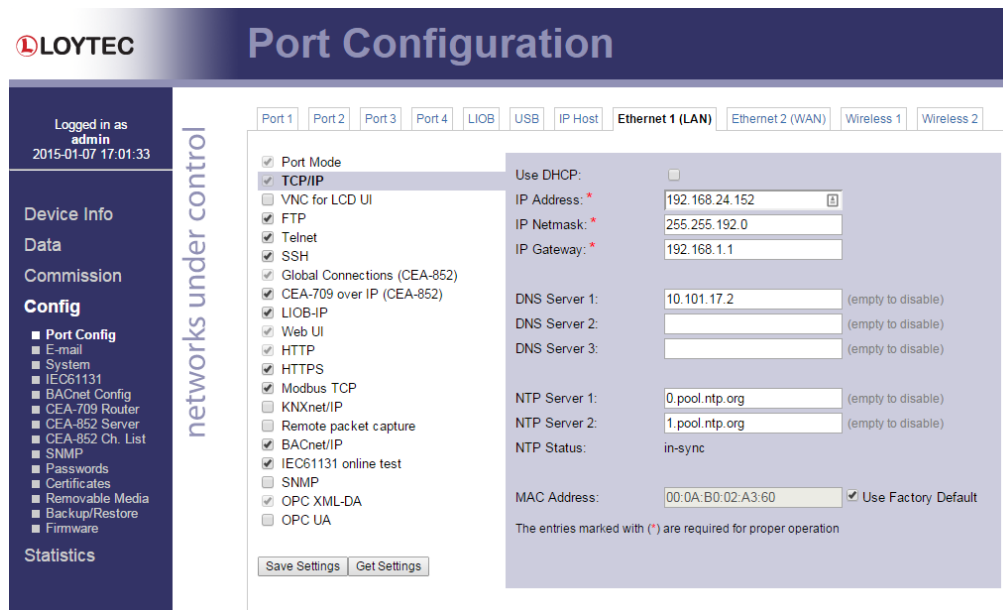

Figure 41: Enter IP address and gateway.
3. The Config menu opens. Click on **Port Config** and change to the tab **Ethernet**. The TCP/IP settings are selected as shown in Figure 41. Enter the IP address, the IP netmask, and IP gateway for this device.